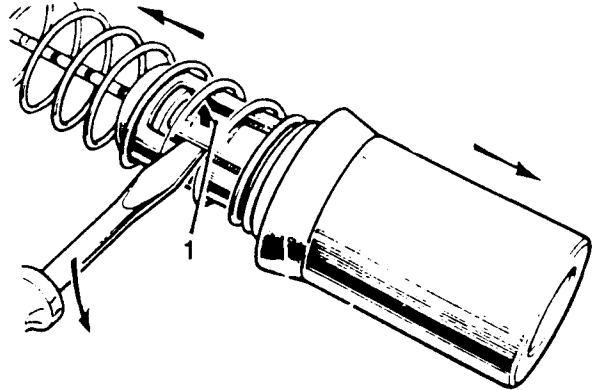

Fig H3.19
- (5) Refer to Fig H3.19. Prise the locking prong (1) of the spring retainer clear of the piston shoulder and withdraw the piston.
(6) Withdraw the piston seal.